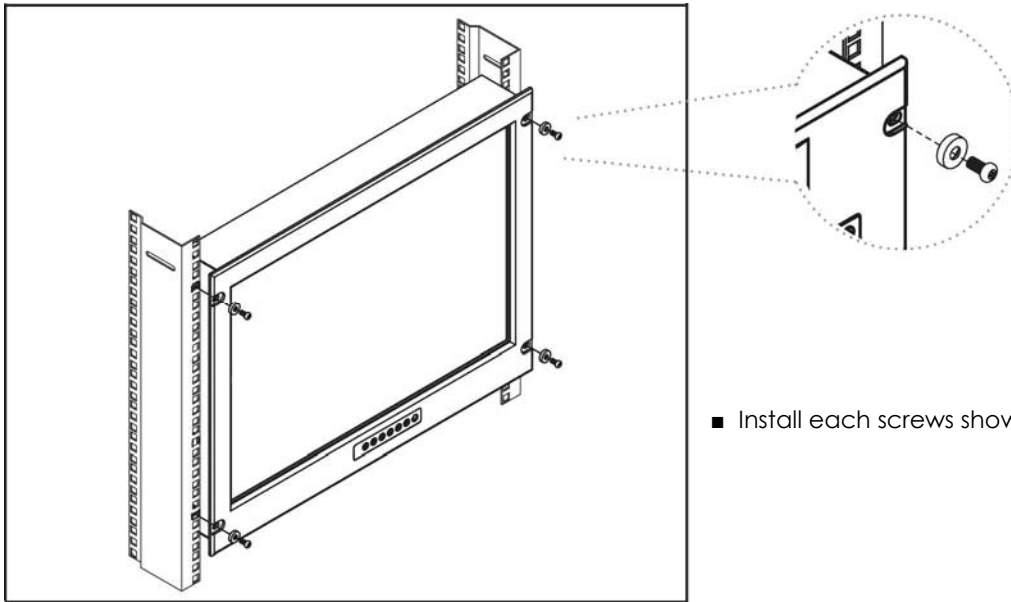

Figure 1.
- Install each screws shown in **Figure 1**.